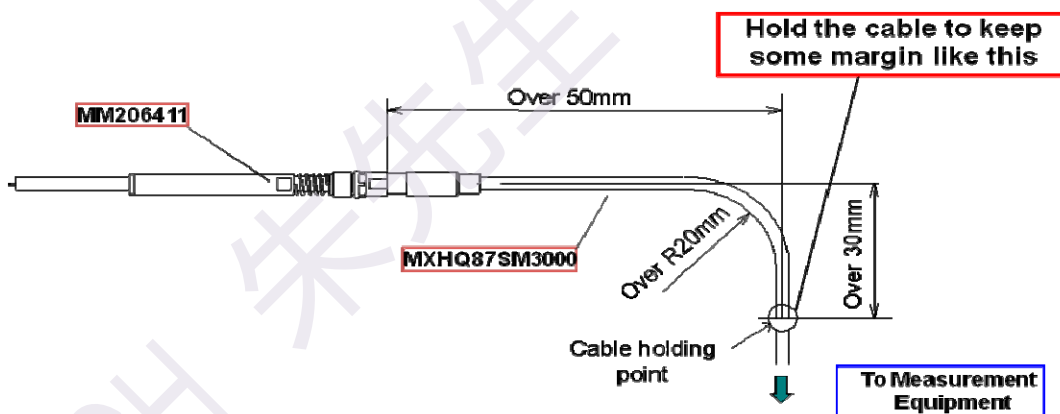

Figure.3 Instruction of MXHQ87SM3000
To avoid the needless force, we recommend using extension cable assembly, MXHQ87SM3000. The instruction of the MXHQ87SM3000 is as Figure 3.
3.2.2 To get the 10dB or higher isolation (up to 11GHz), the engagement strokes from the top surface of jig to the tip of probe is 41.95mm to 42.95mm. (Figure 3)